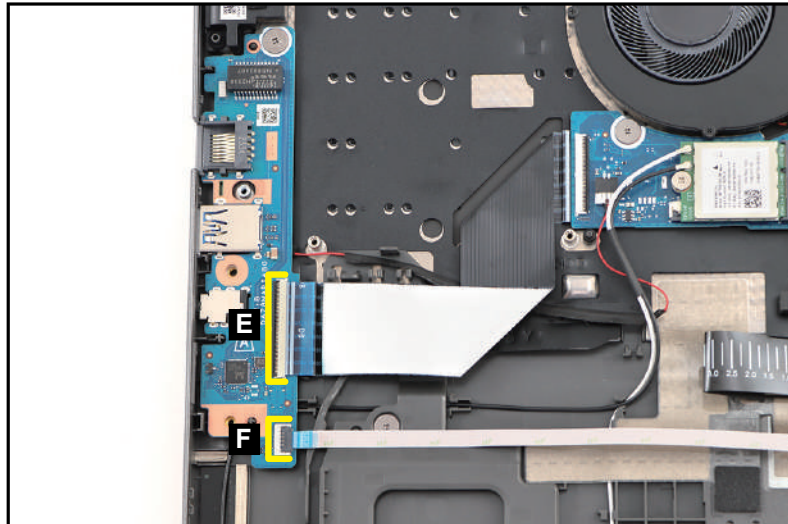

Figure 3-160. Replacing the Smart Card Holder
4. Connect the USB board FFC to the USB board connector (E). Then connect the fingerprint FFC to the USB board connector (F) (Figure 3-160).